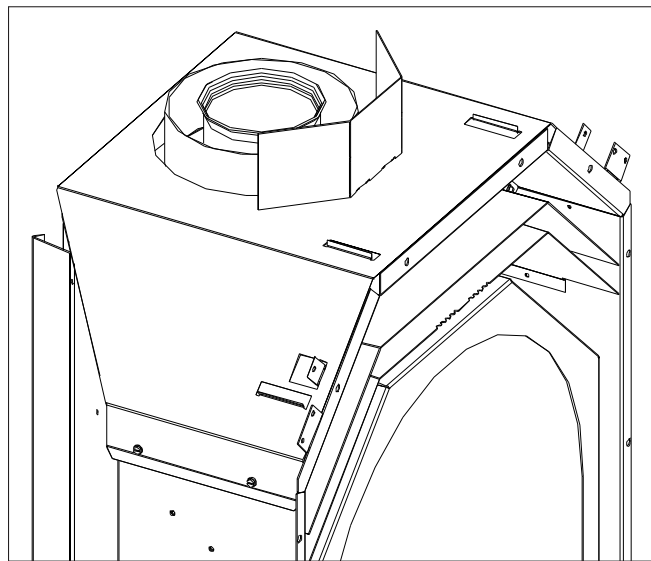

Figure 16. Vent Heat Shield Sides Bent.
2. Bend the two (2) side flaps 45° back around the vent (see Figure 16).